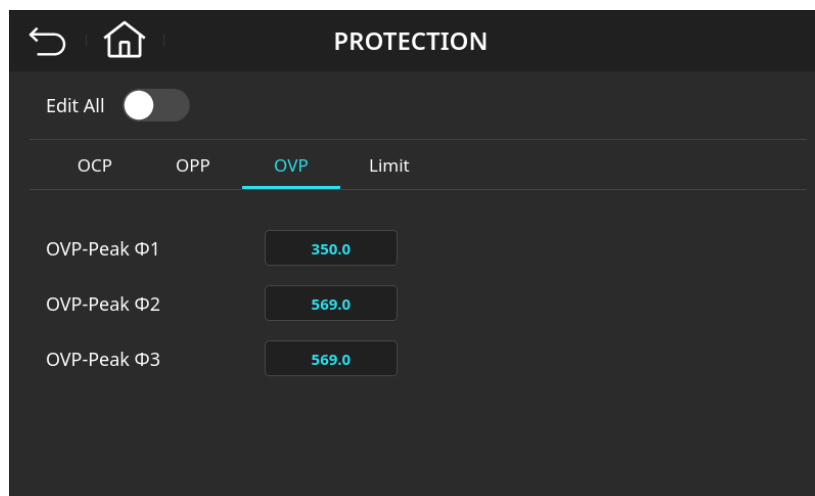

Figure 4-56 Output Overvoltage Protection Page (OVP-Peak $\Phi 1 = 350\text{ V}$)
4. Enter 3, 5, 0 then press  to change the value to “350.0”, as shown in Figure 4-56.